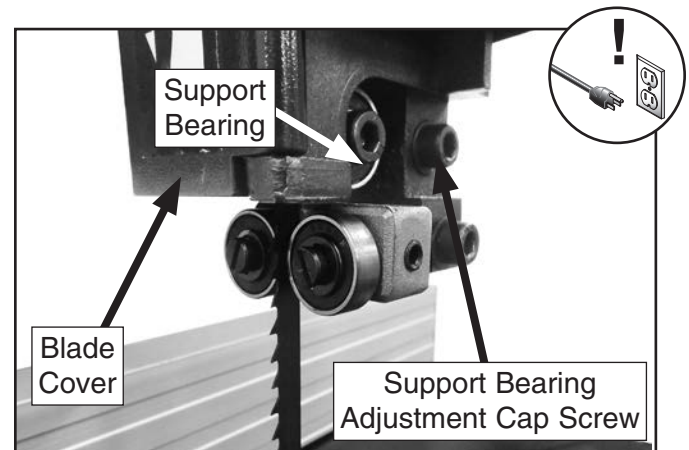

Figure 23. Upper support bearing assembly and controls.
2. Open blade cover and loosen support bearing adjustment cap screw (see **Figure 23**).